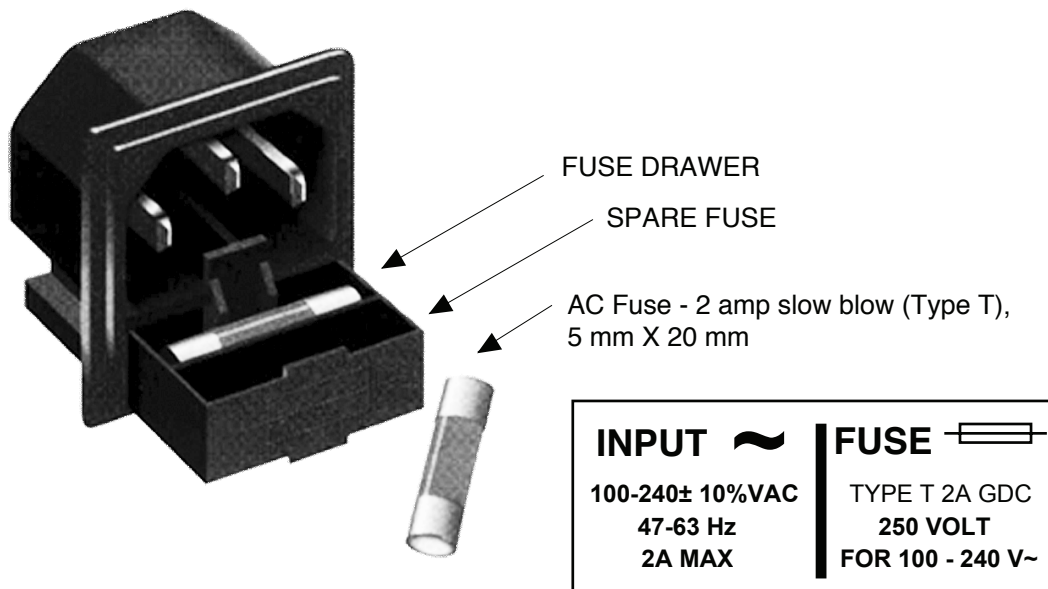

Figure 2.3 **Fuse Location and Spare Fuse**
- 5.) **AC Fuse** - The fuse is a 5 mm X 20 mm, 2 amp slow blow (Type T) and is inserted in the far slot in the drawer below the AC input as shown in Figure 2.3. There is a spare fuse in the near slot.